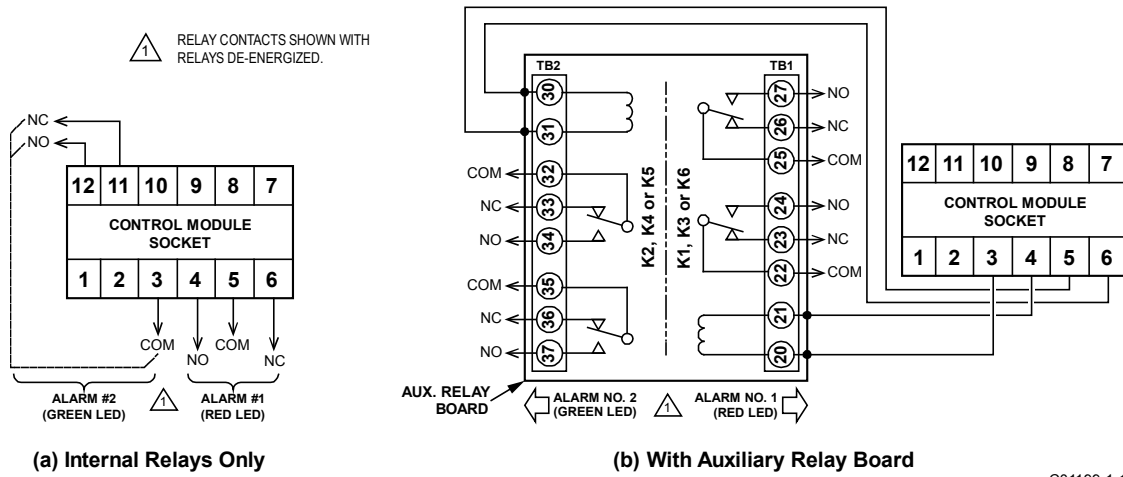

Figure 8 – Remote Wiring Diagram, Relay Options
Alarm relays are provided by the on-board control module relays or via an auxiliary relay board. For remote units using the control module's on-board relays, remove the control module from its socket and wire the relay contacts using the control module socket screw terminals indicated in the wiring diagram in Figure 8 below.
When connecting the relay wiring, do so with complete understanding of what the process requires of the instrument. The instrument has single or dual DPDT relay output contacts depending on the application. For the relay logic, refer to Figure 8 below. Relay contacts are shown with the relays de-energized. Also refer to the jumper configuration tables starting on page 15. Wire in accordance with the system requirements.
The control module can be ordered with switching voltage outputs and no auxiliary relay board. This can be used with customer-supplied relays or any other device that has a differential input. The 17 VDC output drives loads as low as 1500 Ω. Refer to Figure 8 below for the output terminals.
1. Run a four-conductor cable from the control module to the external (i.e., not the factory-installed auxiliary relay board) auxiliary relay coils. Use the wiring diagram in Figure 8 below as a guide to wire the boards together.